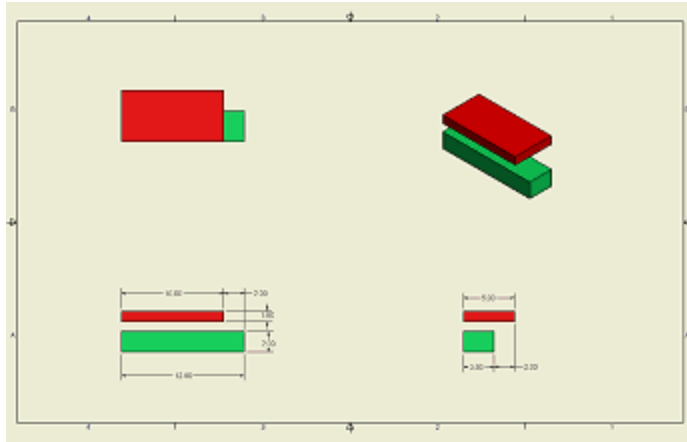

Figure 5: The 2D assembly drawing.
2. Open the 2D drawing file *BF-04-02.idw*. It should look something like Figure 5. I say “something like” because it probably does not show the same dimension values. Instead, the red (upper) part displays the latest values that you saved in your spreadsheet.